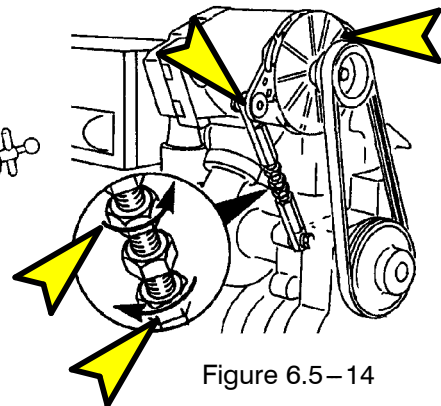

Figure 6.5–14
1. Loosen up the alternator and adjusting link mounting capscrews (See Figure 6.5–12).